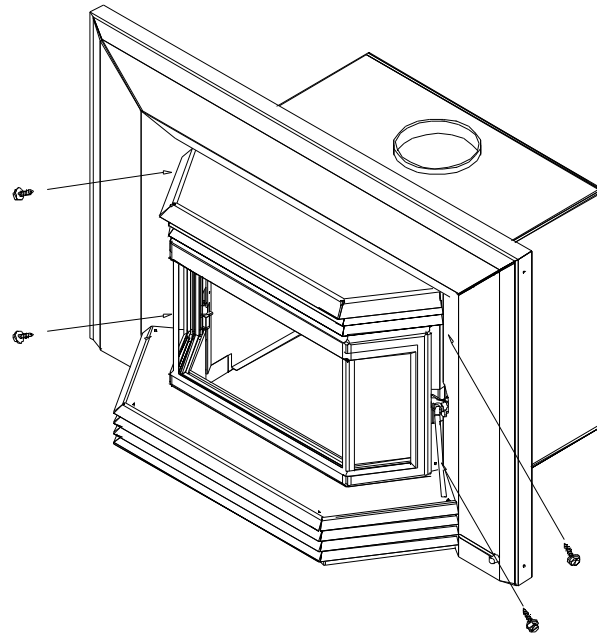

Figure 2.7
7. Fan is already attached to the unit at the factory with two tie straps to reattach fan to unit see (Figure 2.7)
9. Install faceplate (Figure 2.7) with four (#10 x 3/8" sheet metal) screws supplied, ensuring the 1/4" rod on the air control plate extension protrudes through the slot in the RH faceplate & moves freely horizontally.